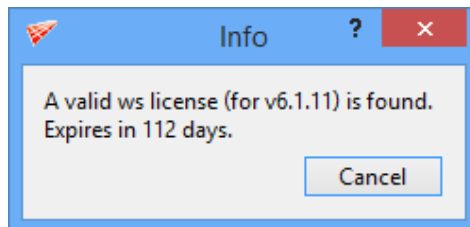

Figure 2.10: License expiry status
**Check License** option displays the license information. If a valid license file exists in the \$GRIDPRO/lc mngr directory, a message pops out as shown in figure 2.10.